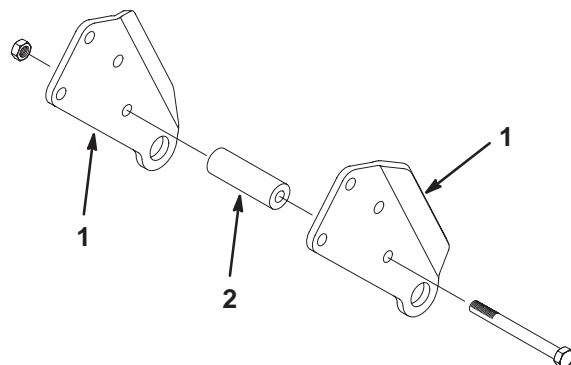

Figure 1
1. Loosely assemble rear pivot plates together with a pivot tube, 3/8-16 x 3-3/4" lg. capscREW and locknut, using holes shown in figure 1.